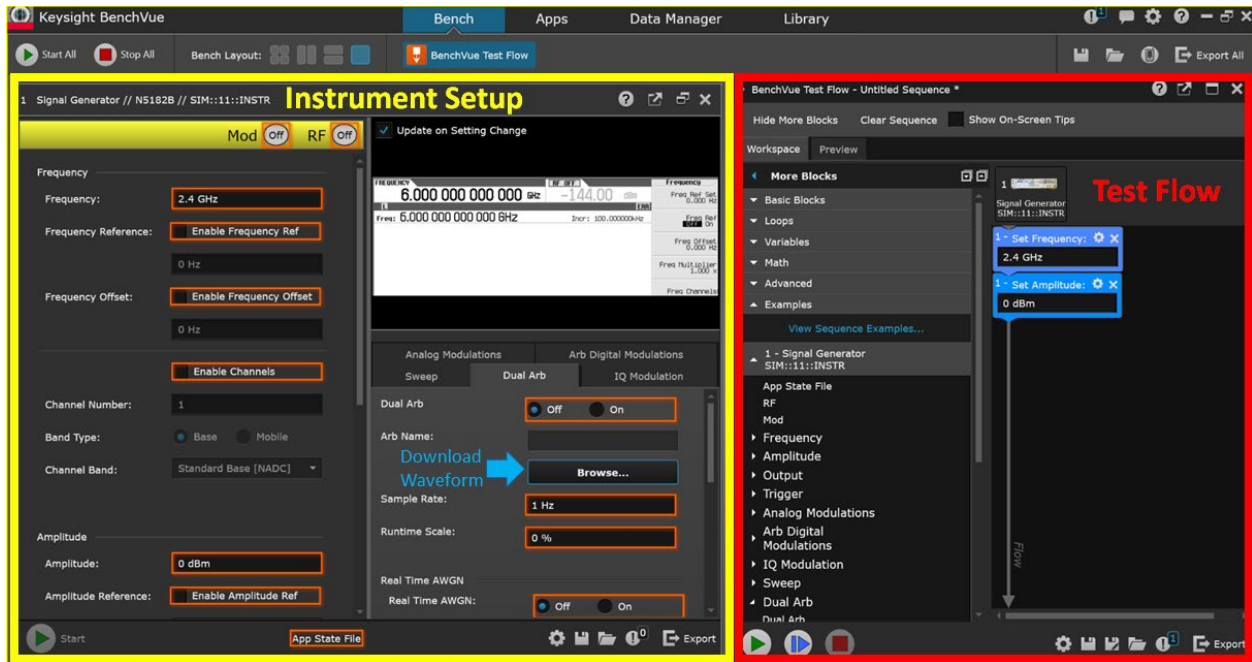

Figure 8.4: Keysight BenchVue user interface for signal generators
**Keysight BenchVue** is a PC-based software. You can quickly configure most commonly used measurements and setups for multiple instruments, including signal generators as shown in the left of Figure 8.4. You can select the folder of waveform files and download them to the signal generator. In addition, BenchVue includes an easy-to-use test flow to control instruments automatically as shown in the right of Figure 8.4.